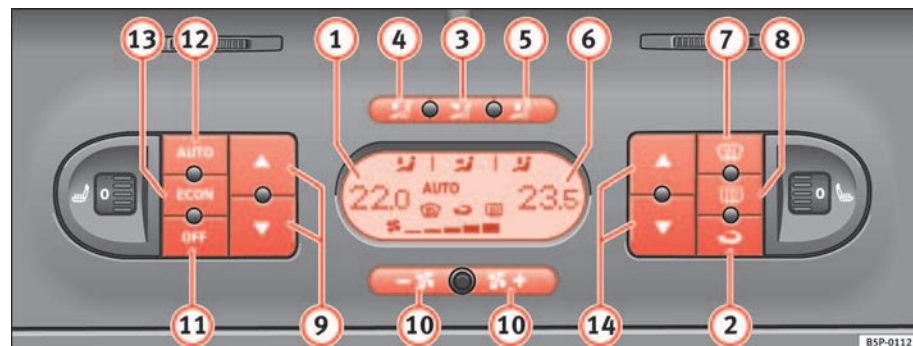

Fig. 127 On the dash panel: 2C Climatronic controls
- To enter manual mode, press one of the buttons ⇒ fig. 127 ③ to
⑤, (ECON) or turn the air flow control ⑩. The symbol (AUTO) will disappear from the display. ►
- Press the button   page 152, fig. 127  to switch air recirculation mode on or off. It is switched on if the following symbol appears in the display .